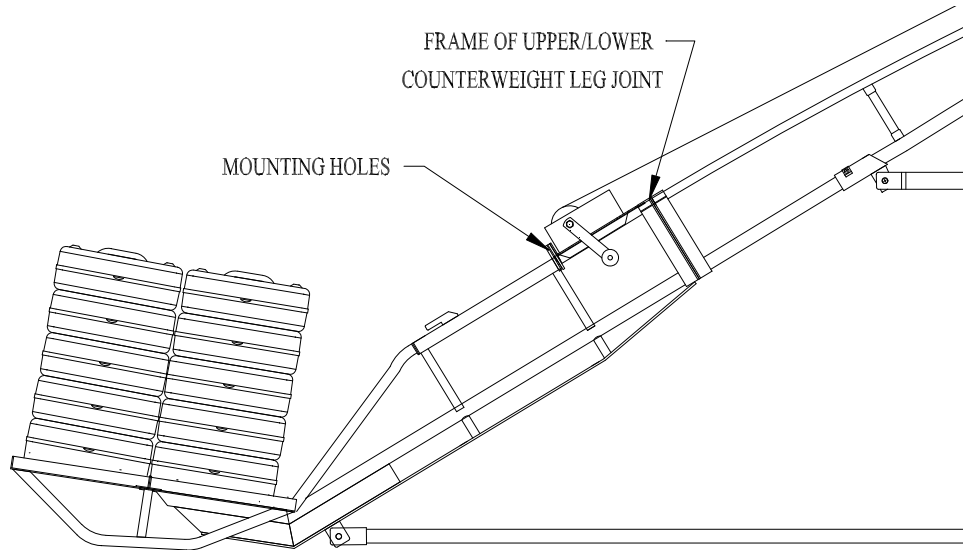

Figure 3-17.
2. Mount the hand winch on the hoist so the crank is located on the right-hand side. Locate the winch on the lower counterweight leg by sliding the front lip of the winch mounting plate under the frame of upper/lower counterweight leg joint. Align the mounting holes and secure with the provided hardware. See Figure 3-17.